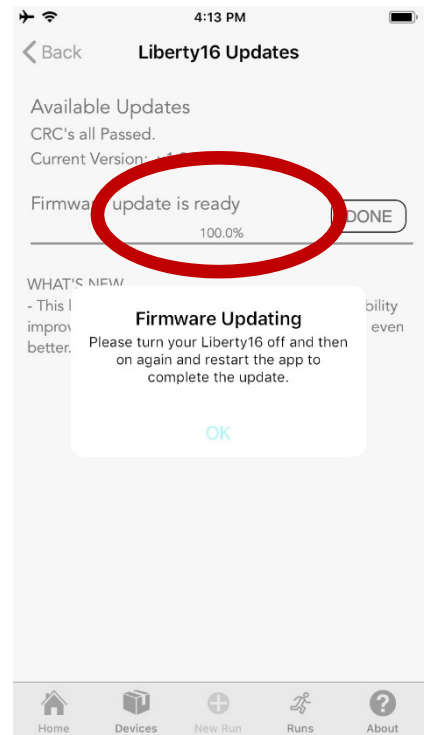

Figure 6: Pop-up message after download complete.
1.1.12. When the download is complete, the firmware will be installed, and a pop-up window will appear instructing you to restart the Liberty16 and the App (**Figure 6**).